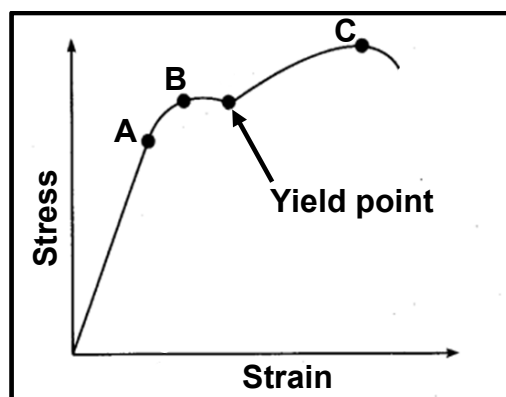

FIGURE 8.3
- 8.3 FIGURE 8.3 below shows a stress-strain diagram. Label **A–C**.